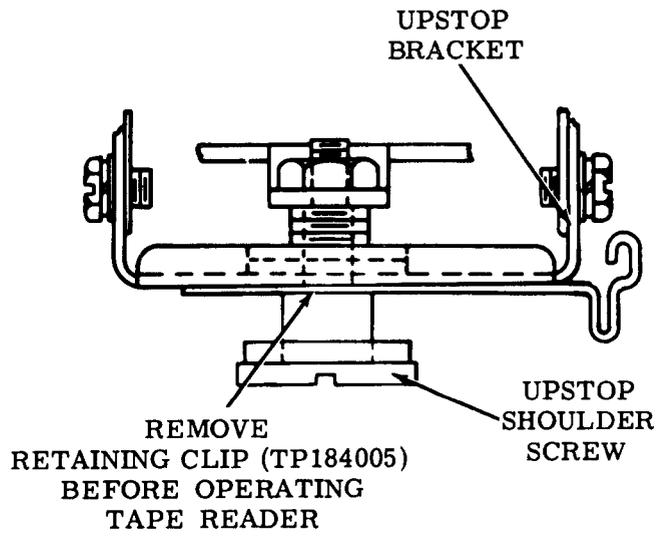

Figure 15 - Tape Reader Upstop Bracket Retaining Clip
Note: Before replacing an ASR cover, remove the retaining clip (early design units only) from the tape reader upstop screw (Figure 15). Also, prepare the punch on 3300 Series Coded Sets for manual or automatic operation as described in 6.01.
4.01 A retaining ring or clip (Figure 15) is assembled (on early design units) to the upstop screw to prevent the sensing pins from being dislodged during shipment. This retaining clip must be removed before placing the tape reader in operation.